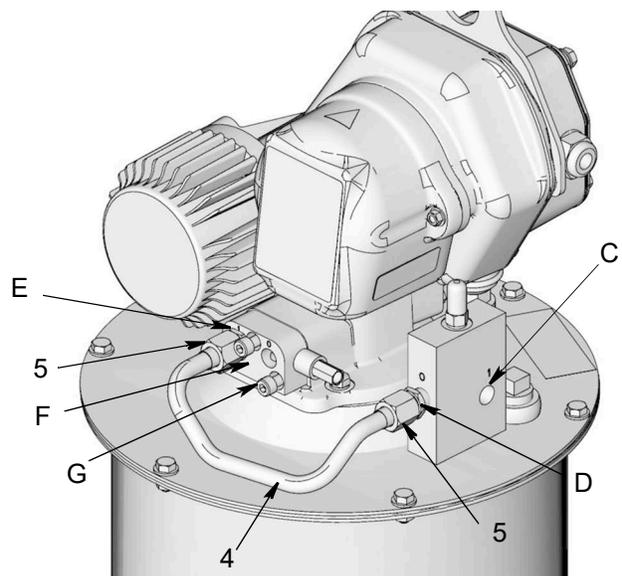

FIG. 15
- Supply tube (4) (marked with the 16V750 aluminum tag) and two connector fittings (5) are used for manifold assemblies. Supply tube (3) can be discarded. It is not used for a manifold installation.
- a. Install connector fittings (5) to manifold inlet (E) and Auto-Fill Shut Off outlet (D). Wrench tighten each fitting (5) securely.
- b. Install end of supply tube (4) to manifold inlet (E) first and then install the other end of the supply tube to the Auto-Fill Shut Off outlet (D) and as shown in FIG. 15.
- Install a (user supplied) lubricant supply hose (L) between Auto-Fill Shut Off inlet (C) (FIG. 15 or FIG. 16) and the remote filling station pump (K).
- A pressure relief valve (G) and overflow container (H) (for collecting excess fluid that drains during pressure relief) **must** be installed in an easily acces-